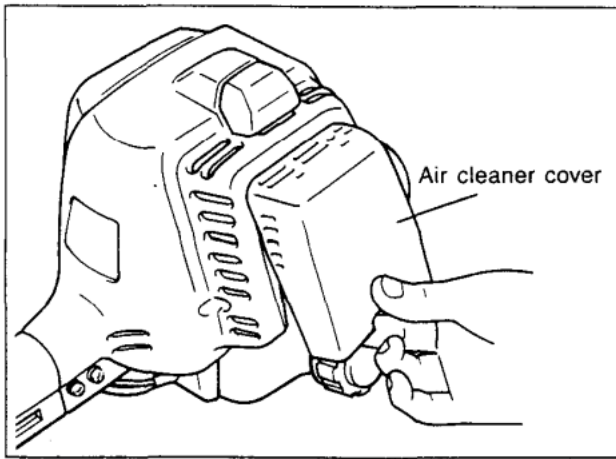

Fig. 12
- i). Remove the air cleaner cover. Clean the sponge element and remove any excessive dust or dirt adhering to the cleaner (Fig. 12 and 13). A clogged air cleaner may make it difficult or impossible to start the engine or to increase the engine rotational speed